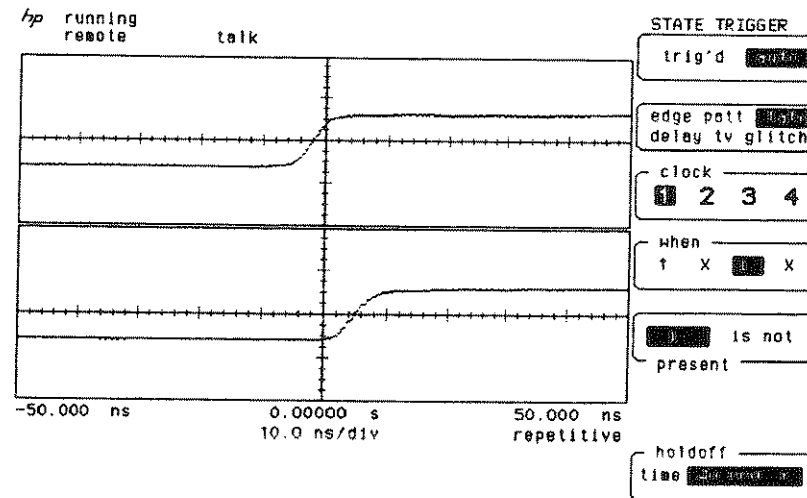

Figure 6-11. Channel 1 Clock XLX State
- Press the when key until **is present** is selected (see Figure 6-11).